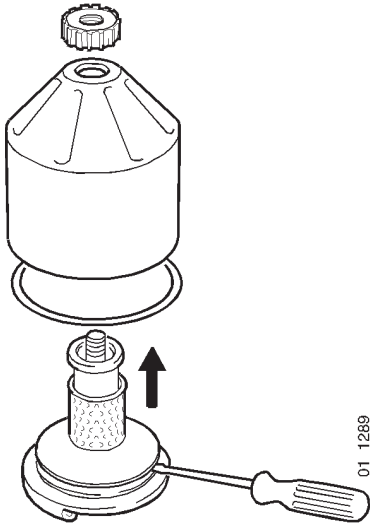

Figure 4
4. Remove the strainer located on the rotor (Figure 4). If the strainer is stuck, use a screwdriver to carefully pry the bottom edge until it comes loose from the bottom plate.